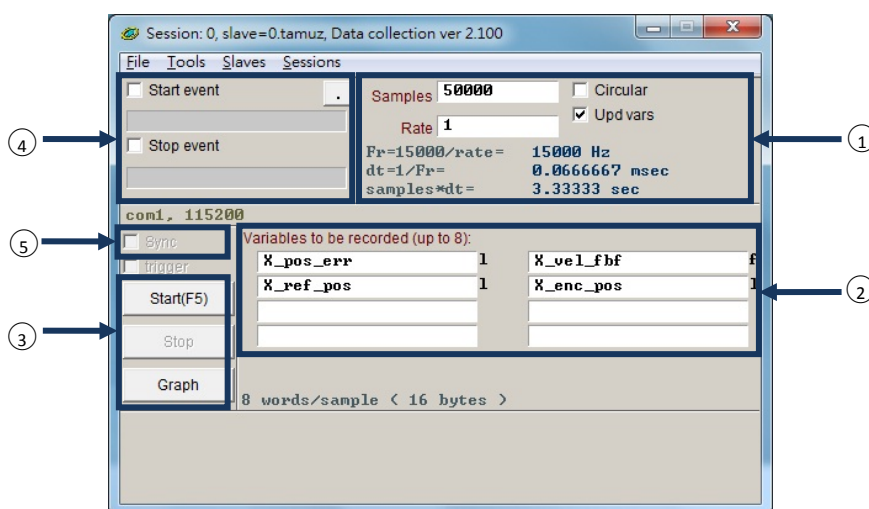

Figure6.4.1.1 Data collection
In order to improve the accuracy of data collection, “Sync” (trigger the auto collection instantaneously) in figure 6.4.1.1 ⑤ provides more flexible and more real-time data capture than the conditional auto collection. The program fragment with the title labeled by “_RecordSync” should be added in the PDL program. Set the start event of data collection. Once this event is triggered, “Data collection” starts to collect the data. Operation steps are given as follows.
Step 4: Check “Sync” in figure 6.4.1.1 ⑤.
Step 5: Click the “Start” button in ③. The program starts to execute the “_RecordSync” function and waits for that the trigger event is satisfied. For example, when the status of I4 is changed from False to True, the data collection starts to capture the data. If I4 is triggered repeatedly, it will collect the record data of last trigger.